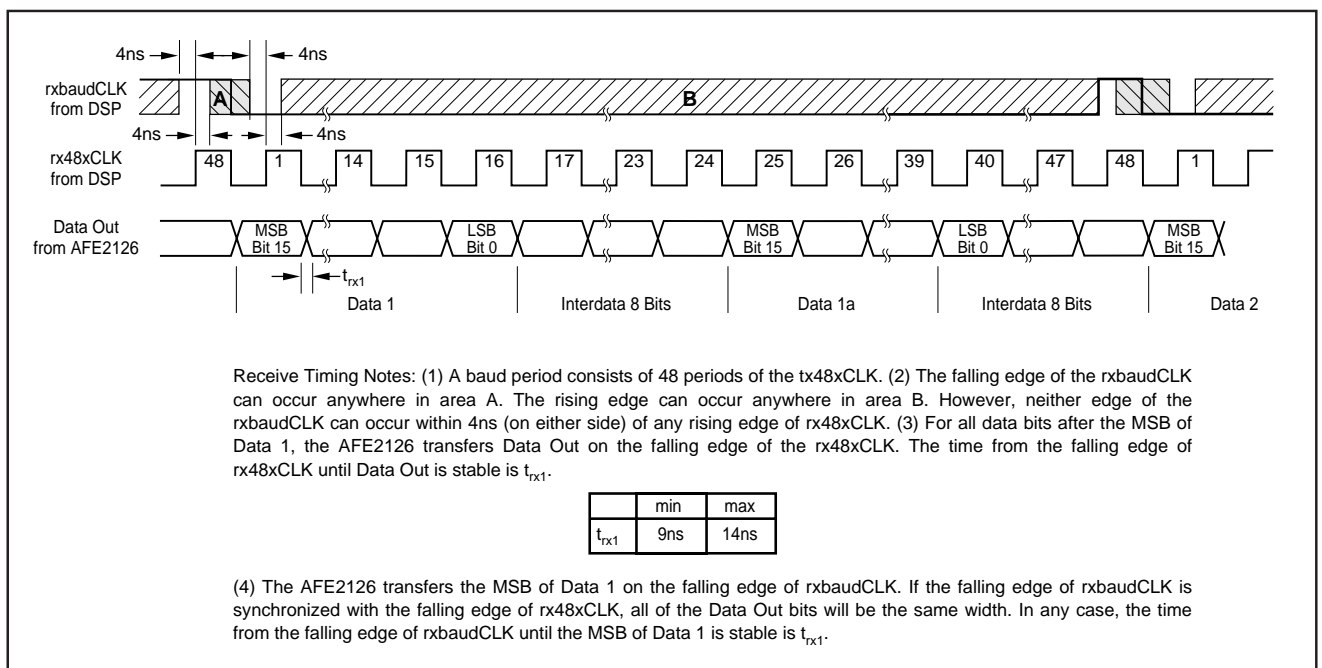

FIGURE 4. Receive Timing Diagram.
**Data Out:** This is the 14-bit A/D converter output data (+2 spare bits) sent from the AFE to the DSP. The 14 bits from the A/D Converter will be the upper bits of the 16-bit word (bits 15-2). The spare bits (1 and 0) will be always be low. Eight additional (interdata) bits follow and are always high. The data is clocked out on the falling edge of rx48xCLK. The bandwidth of the A/D converter decimation filter is equal to one-half of the symbol rate. The nominal output rate of the A/D converter is one conversion per symbol period. For more flexible post processing, there is a second true A/D conversion available in each symbol period. In Figure 4, the first conversion is shown as Data 1 and the second conversion is shown as Data 1a. It is suggested that rxbaudCLK is used with the rx48xCLK to read Data 1 while Data 1a is ignored. However, either or both outputs may be used for more flexible post-processing.